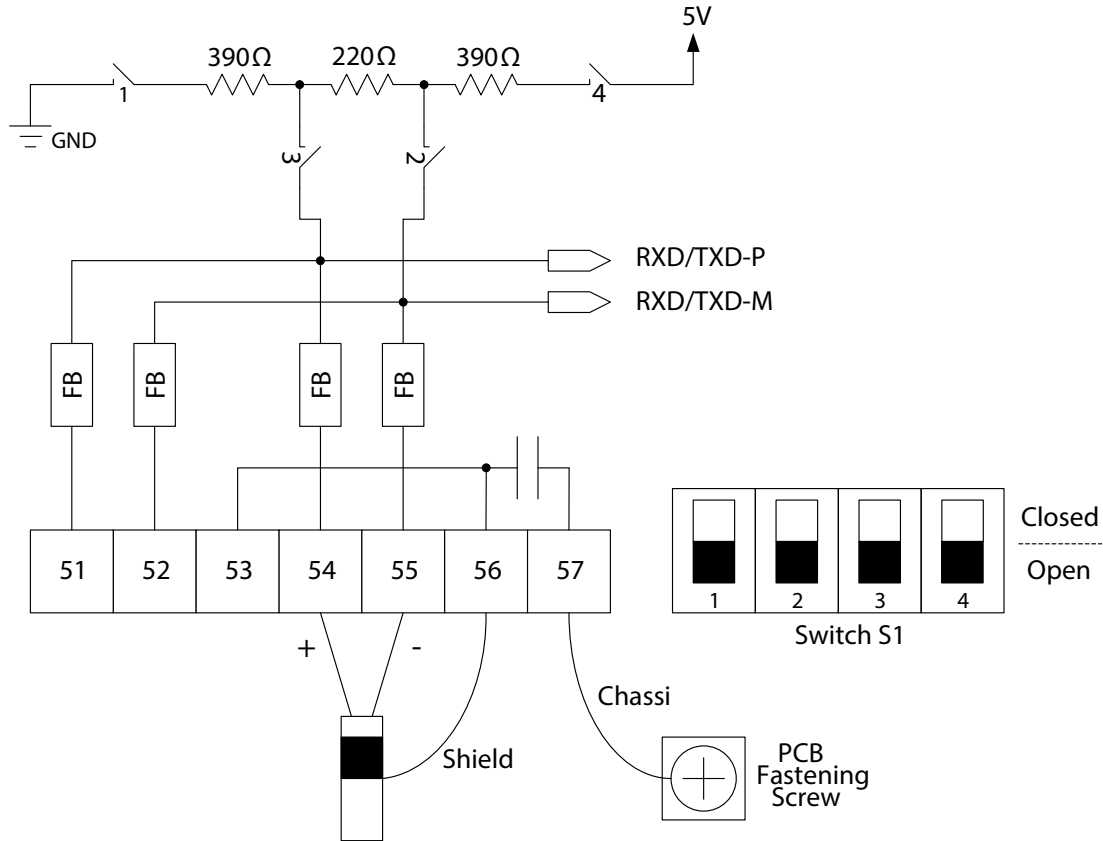

Figure 4: Signal wiring diagram
- 5. Use the following information to make appropriate wiring of signals to the 7-pin customer connector. See "Figure 4: Signal wiring diagram" on page 6.